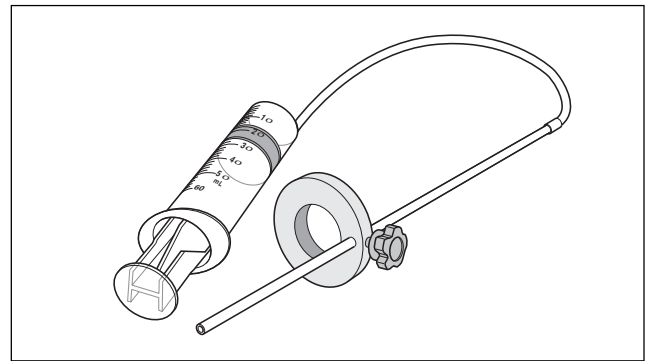

Figure 2-79. Front Fork Oil Level Gauge (HD-59000B)
- f. See Figure 2-79. Obtain the FRONT FORK OIL LEVEL GAUGE (HD-59000B).
- c. See Figure 2-79. Obtain the FRONT FORK OIL LEVEL GAUGE (HD-59000B).